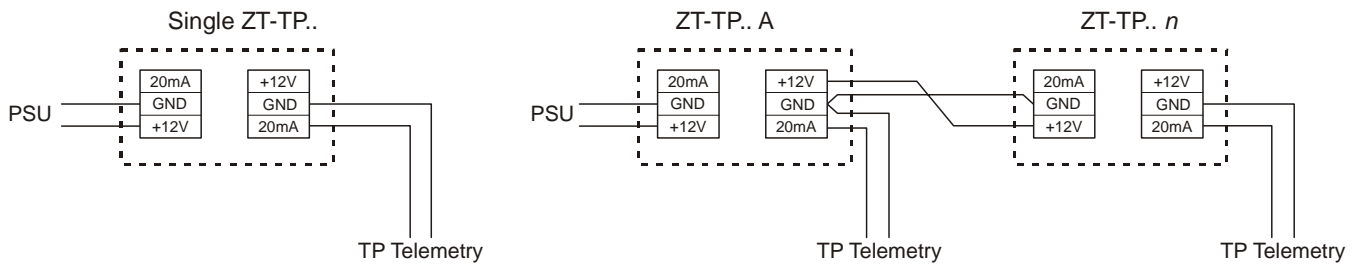

Fig. 2
Two sets of spring loaded contacts are provided on the ZT-TP which allow you to make the power and twisted-pair telemetry connections. Each pair are commoned together i.e. GND connects to GND, etc. This enables the connections to be made more easily. In addition, the power supply connections may be commoned together when more than one ZT-TP is being used (see figure 2).
- Connect the +12V DC and 20mA twisted pair to the 3 way connectors on the side of your ZT-TP as shown in Figure 2.